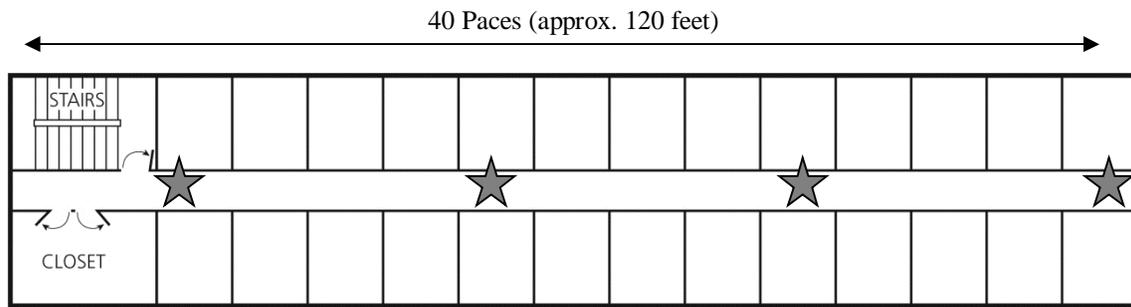

Fig 15 6 Standard Wing
5.1.2 The property illustrated in Fig 15 is a standard wing.